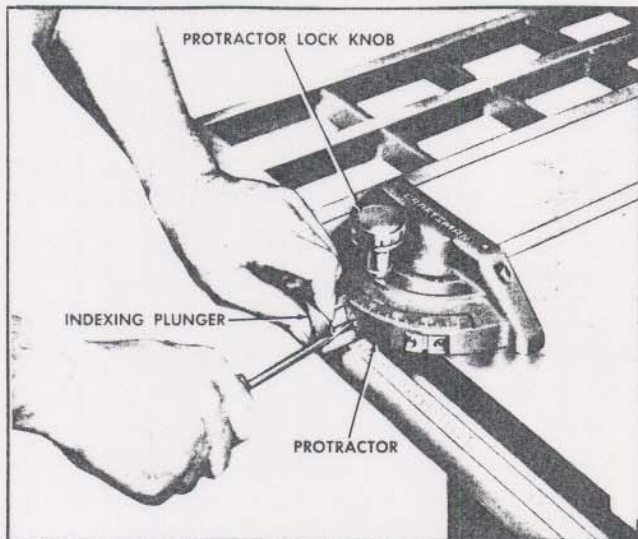

FIGURE 11
4. While holding the indexing plunger fully engaged retighten screws securely. See Fig. 11.